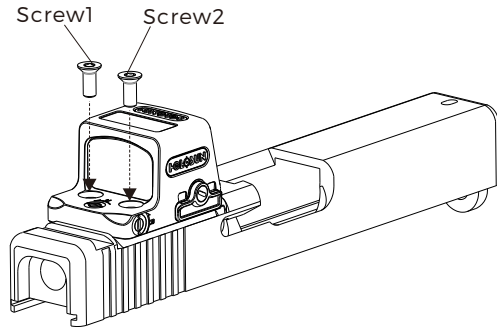

Fig 6
2. Use either the included screws or screws supplied with your slide or from your gunsmith and tighten to 15 inch/lbs using a non-permanent (medium/blue) thread locker. (See Fig 6)